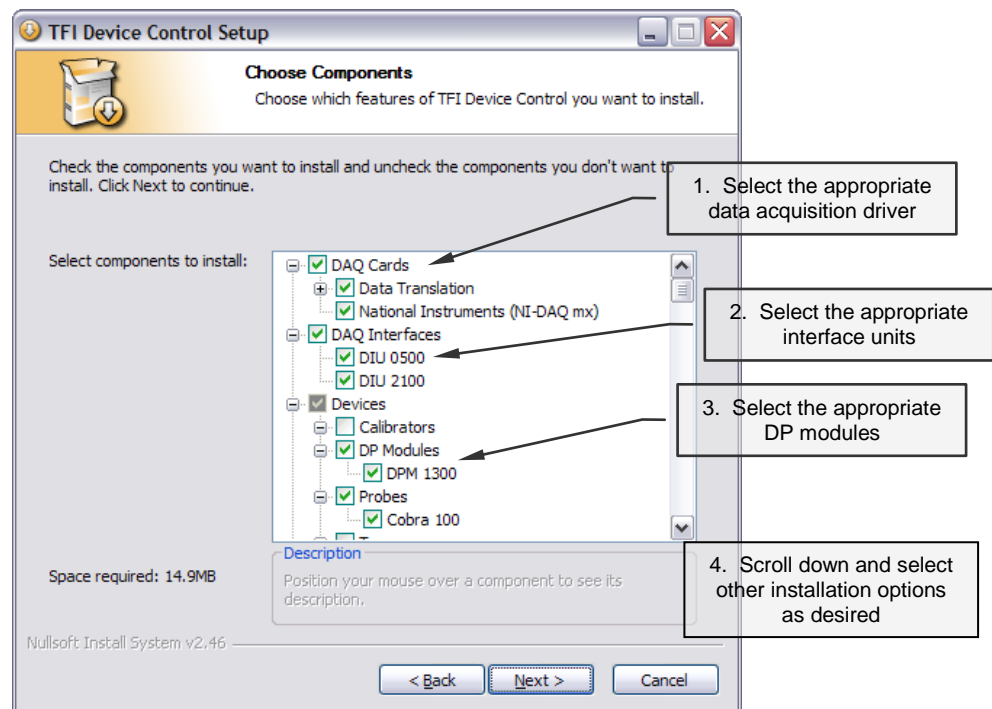

Figure 3: Software installation – Choosing which components are installed
- Follow the on-screen instructions and upon reaching the **Choose Components** screen, refer to Figure 3.